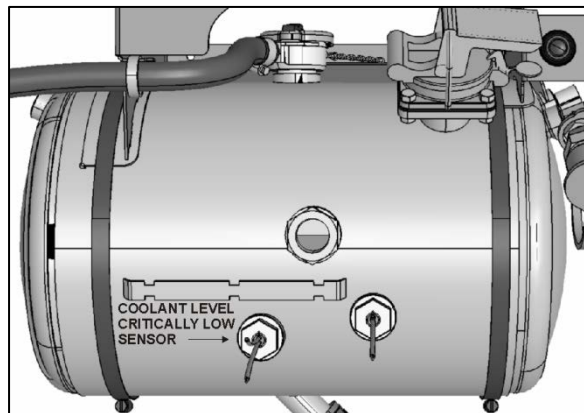

Figure 5
5. Disconnect the coolant level critically low sensor (Figure 5).